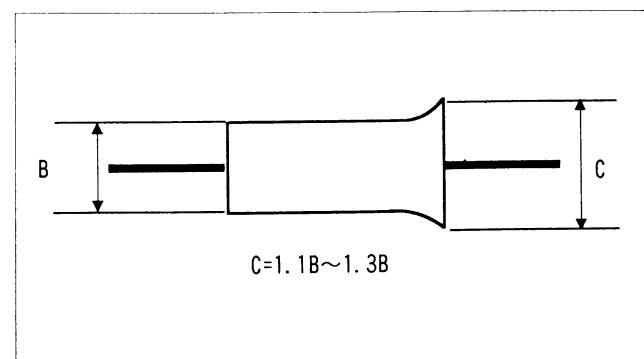

Fig. 1-9
- 4) Slightly swell Take up Side Waveform by turning No. 9 Guide. (Fig. 1-9)